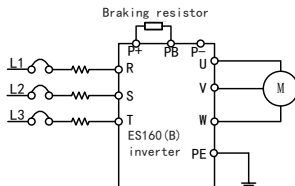

Figure3-10 Main circuit standard wiring diagram
ES160(B) inverter main circuit wiring showing as Figure3-10